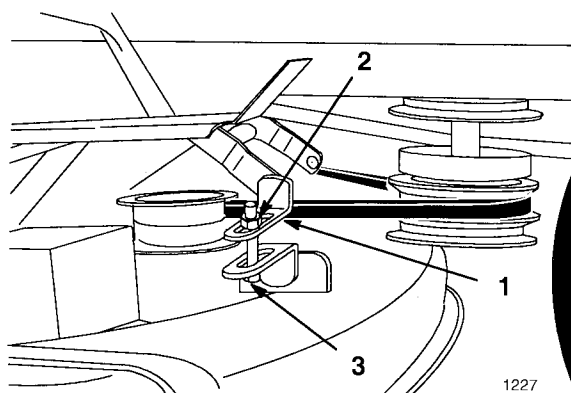

Figure 10
6. To adjust front-to rear blade level loosen jam nut on front adjustable link. (Fig. 10).
7. Rotate the bolt on front adjustable link to change front-to rear blade level (Fig. 10).